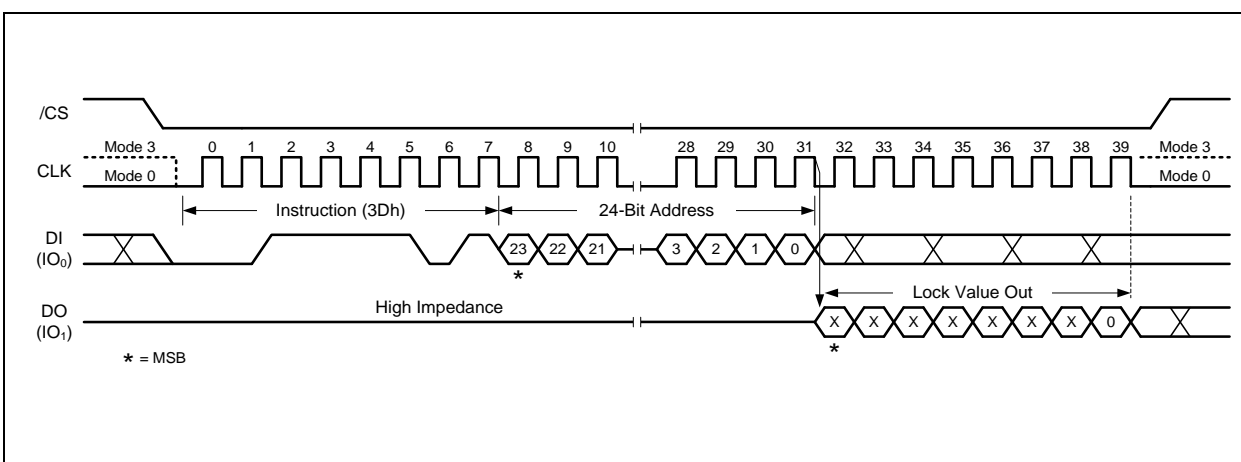

Figure 55. Read Block Lock Instruction
To read out the lock bit value of a specific block or sector as illustrated in Figure 4d, a Read Block/Sector Lock command must be issued by driving /CS low, shifting the instruction code “3Dh” into the Data Input (DI) pin on the rising edge of CLK, followed by a 24-bit address. The Block/Sector Lock bit value will be shifted out on the DO pin at the falling edge of CLK with most significant bit (MSB) first as shown in Figure 55. If the least significant bit (LSB) is 1, the corresponding block/sector is locked; if LSB=0, the corresponding block/sector is unlocked, Erase/Program operation can be performed.